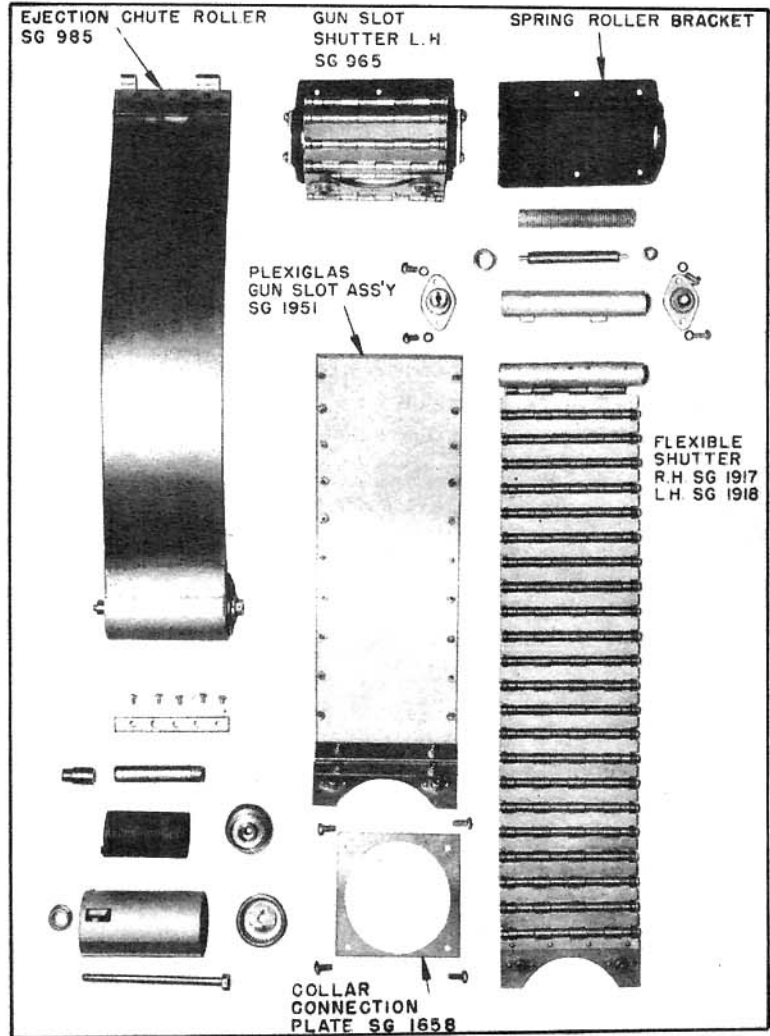

FIGURE 45
(3) Ejection Chute Roller Hinge. - (a) After rear trunnion has been adjusted, attach ejection chute roller hinge (SG 985 and SG 985-1) to rear of gun yoke by means of a bolt (1/4", 3-1/2") and washer and locknut (see Figure 45).